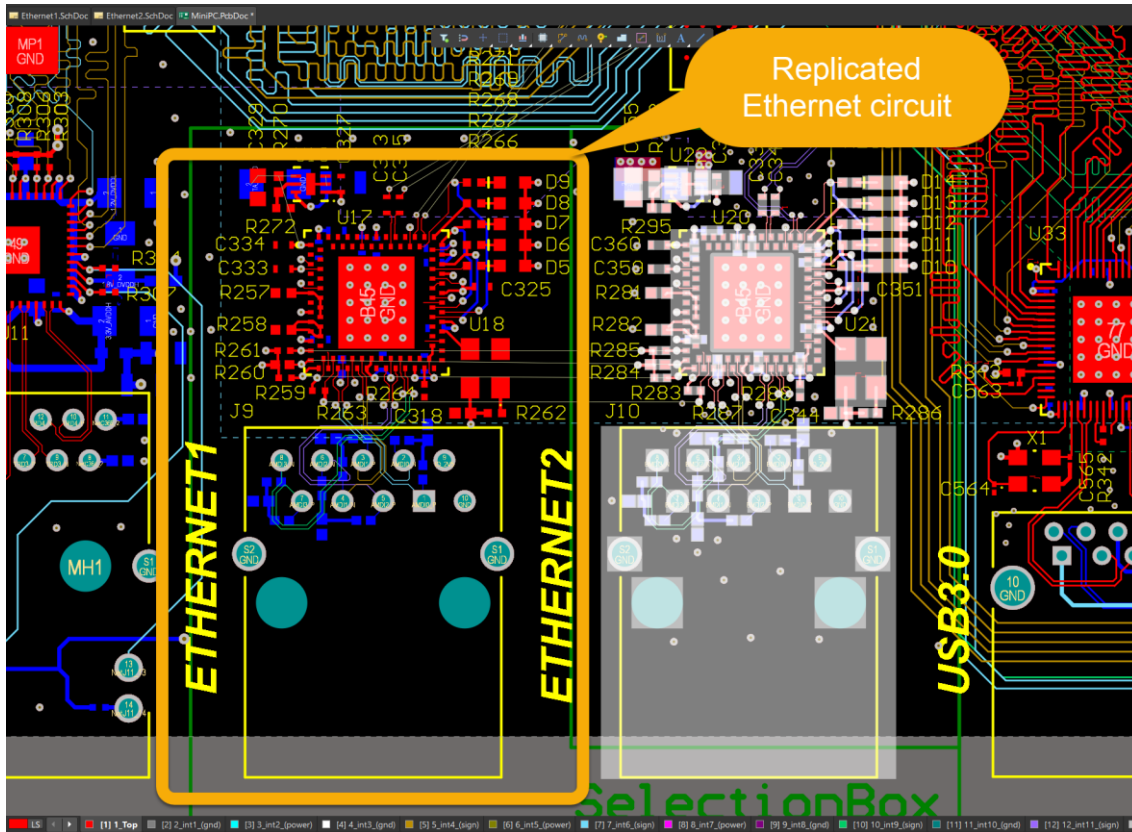

Figure 7. Replicated Ethernet Circuit
22. To see the result of the replication command (Figure 7):